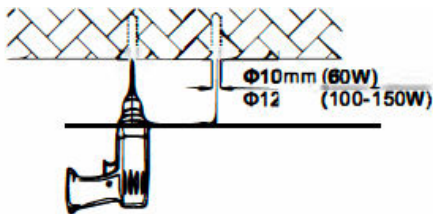

Fig. 1
1. Mark ceiling or wall as appropriate, and drill holes on the marks (Fig. 1).